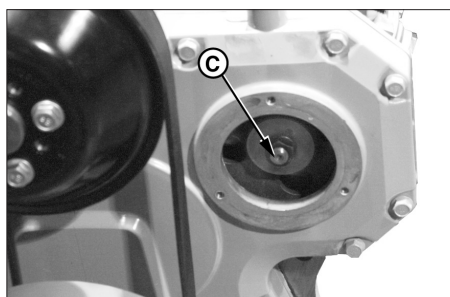

Figure 20 Reproduced by permission of Deere & Company, c.2004. Deere & Company, All rights reserved.
7. Push pump drive gear firmly onto shaft taper. Install washer and retaining nut (Figure 20-C) onto end of shaft. Tighten retaining nut to 90 lb-ft. (122 N•m) for DB2, 150 lb-ft. (203 N•m) for DB4.